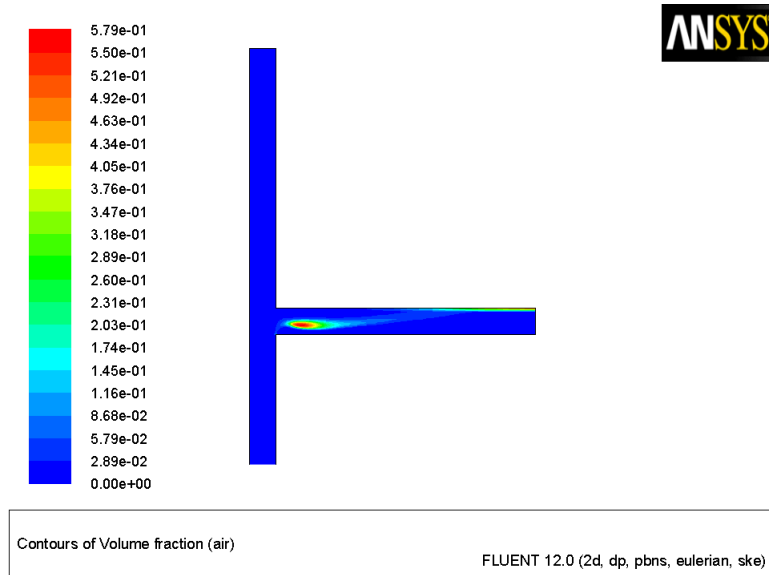

Figure 20.8: Contours of Air Volume Fraction
3. Display the volume fraction of air (Figure 20.8).